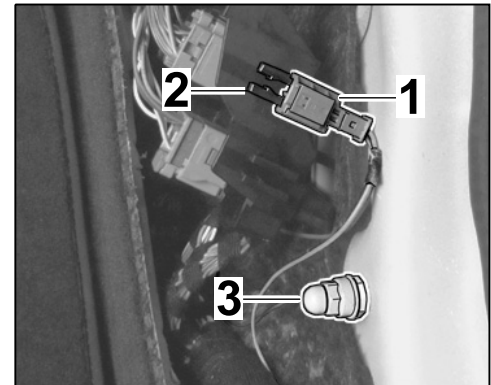

Figure 13
- 2.3.7 Push pin connector socket onto the top guide at the connection point holder (⇒ *Figure 13*).
Secure cable ring eyelet to ground pin 22 (⇒ *Figure 13 -3-*).